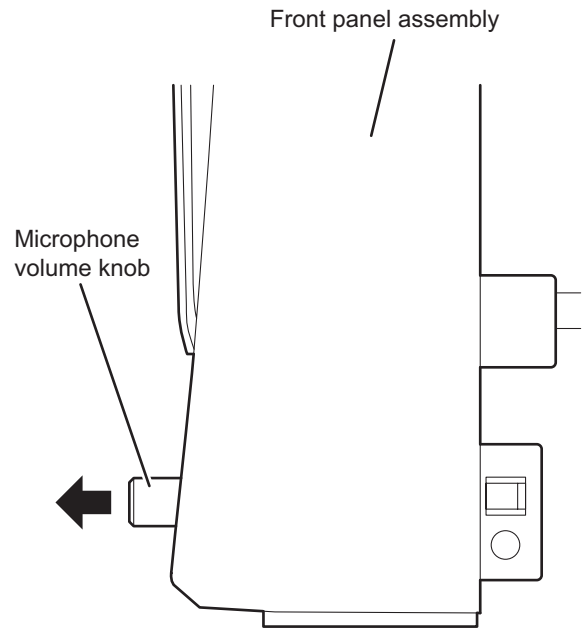

Fig.25
3.1.18 Removing the microphone amplifier board (See Fig.25, 26)
- (1) From the front side of the front panel assembly, pull out the microphone volume knob. (See Fig.25)